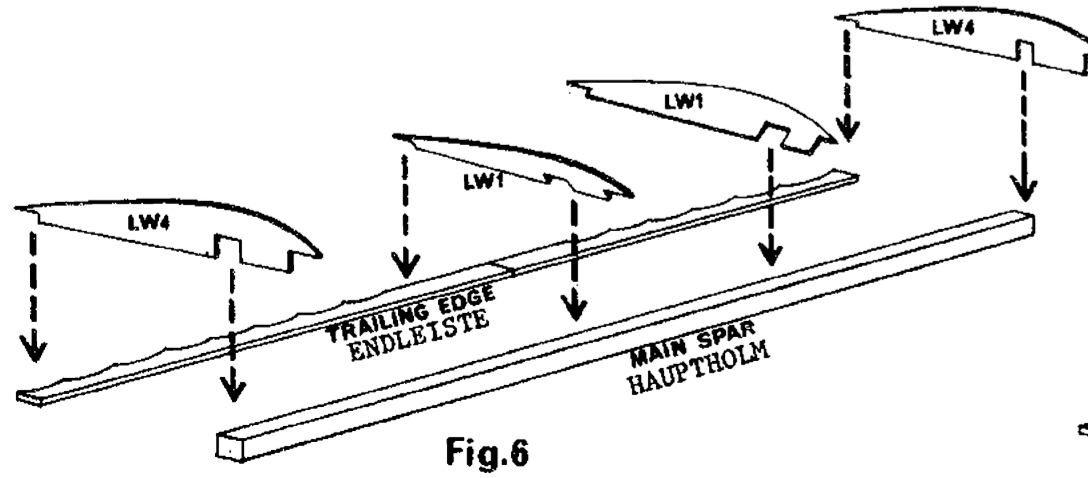

Fig. 6
Glue both LW1 and LW4 ribs to main spar and trailing edge as in FIG. 6. Be sure LW1 ribs are at angles shown on FIG. 6.
10) DIE RIPPEN LW1 UND LW4 AUF ENDLEISTE UND HAUPTHOLM LEIMEN LW1 SCHRÄG SETZEN (FIG. 6) FIG. B7